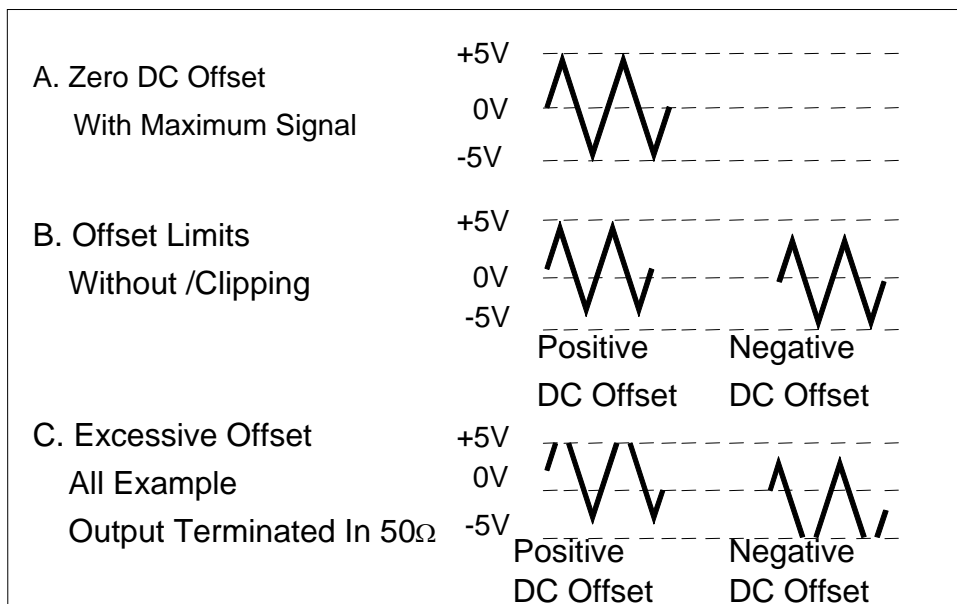

FIG 4. USE OF DC OFFSET CONTROL
A. The DC offset control can provide over ± 10 volts open-circuited, or ± 5 volts into 50Ω load. Remember that the combined signal swing plus DC offset is also limited to ± 10 V open-circuited, or ± 5 V into 50Ω. Clipping occurs slightly next page these levels. FIG 4. illustrates the various operating conditions encountered when using DC offset. If the desired output signal is large or if a large DC offset is used, an oscilloscope should be used to make sure that the desired